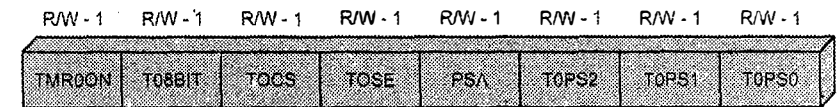

**Fig. Q.4.2 : Timer 2 control register**
- The module is controlled through the T2CON register Fig. Q.4.2, which enables or disables the timer and configures the prescaler and postscaler. Timer 2 can be shut off by clearing control bit, TMR2ON (T2CON<2>), to minimize power consumption. A range of 16 postscale options (from 1:1 through 1:16 inclusive) can be selected with the postscaler control bits, T2OUTPS3:T2OUTPS0 (T2CON<6:3>).